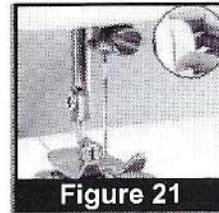

Figure 21
1. Turn the hand wheel counter-clockwise till the needle is at its highest position. (Figure 21)